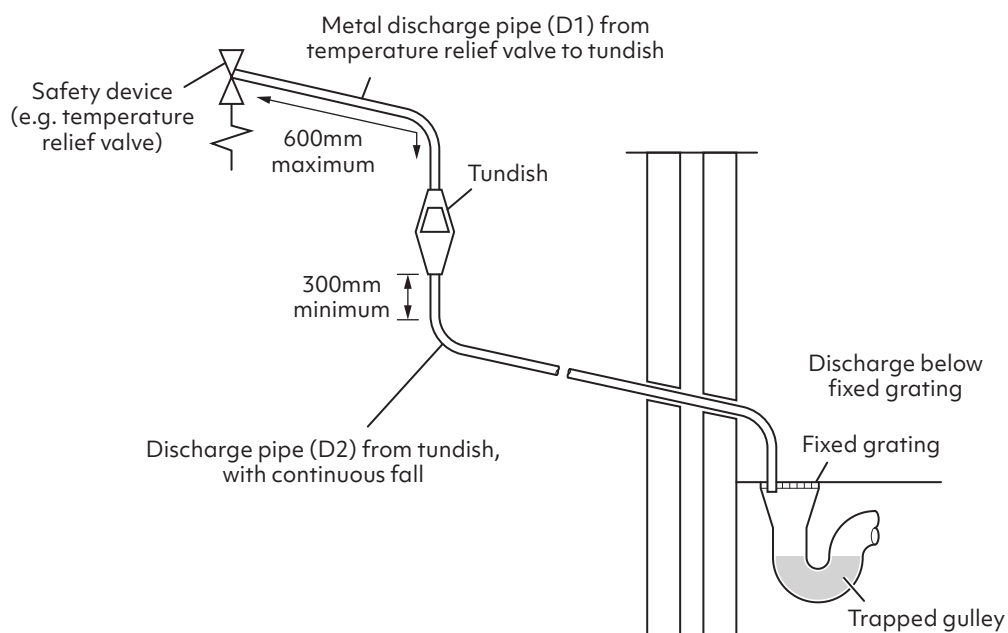

Fig. 14
- Safety devices such as temperature relief valves or combined temperature and pressure relief valves should discharge either directly or by way of a manifold via a short length of metal pipe (D1) to a tundish (Fig. 14).
- The discharge pipe (D2) from the tundish should have a vertical section of pipe at least 300mm long below the tundish before any elbows or bends in the pipework. It should be installed with a continuous fall of at least 1 in 200 (Fig. 14).